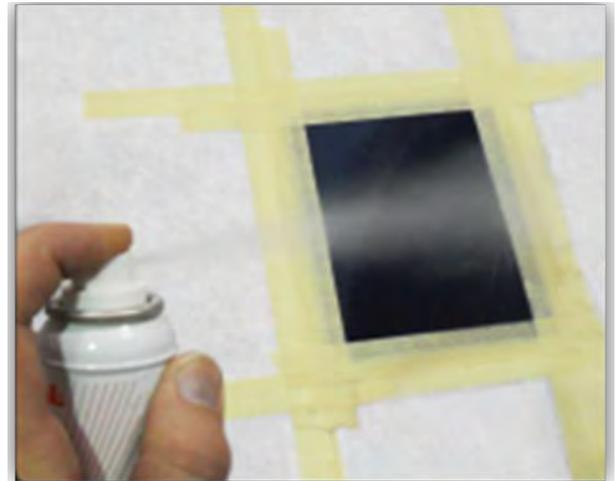

Figure 8-16. Applying a film coat of Patchaid® Spraycure™ 970C961.
2. After spraying, follow-up with a film coat of Patchaid® Spraycure™ 970C961 to seal the open side of the patch and enhance cure (Figure 8-16). Apply while the patch is still wet, within 5-10 minutes of spraying the patch. For an efficient seal, Patchaid® 970C961 must be sprayed as a film rather than a dust coat. Do not flood it on or spray it too thick.